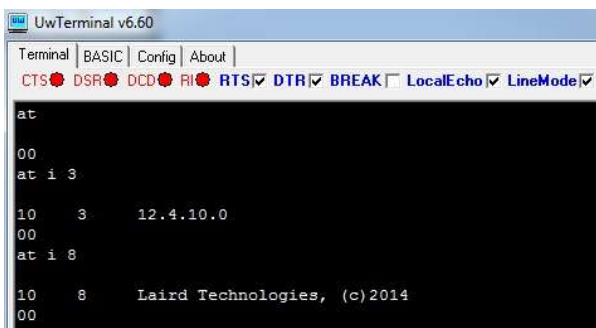

Figure 4: J-Link firmware update dialog
5. If the J-Link firmware is outdated, the following dialog box displays (Figure 4):